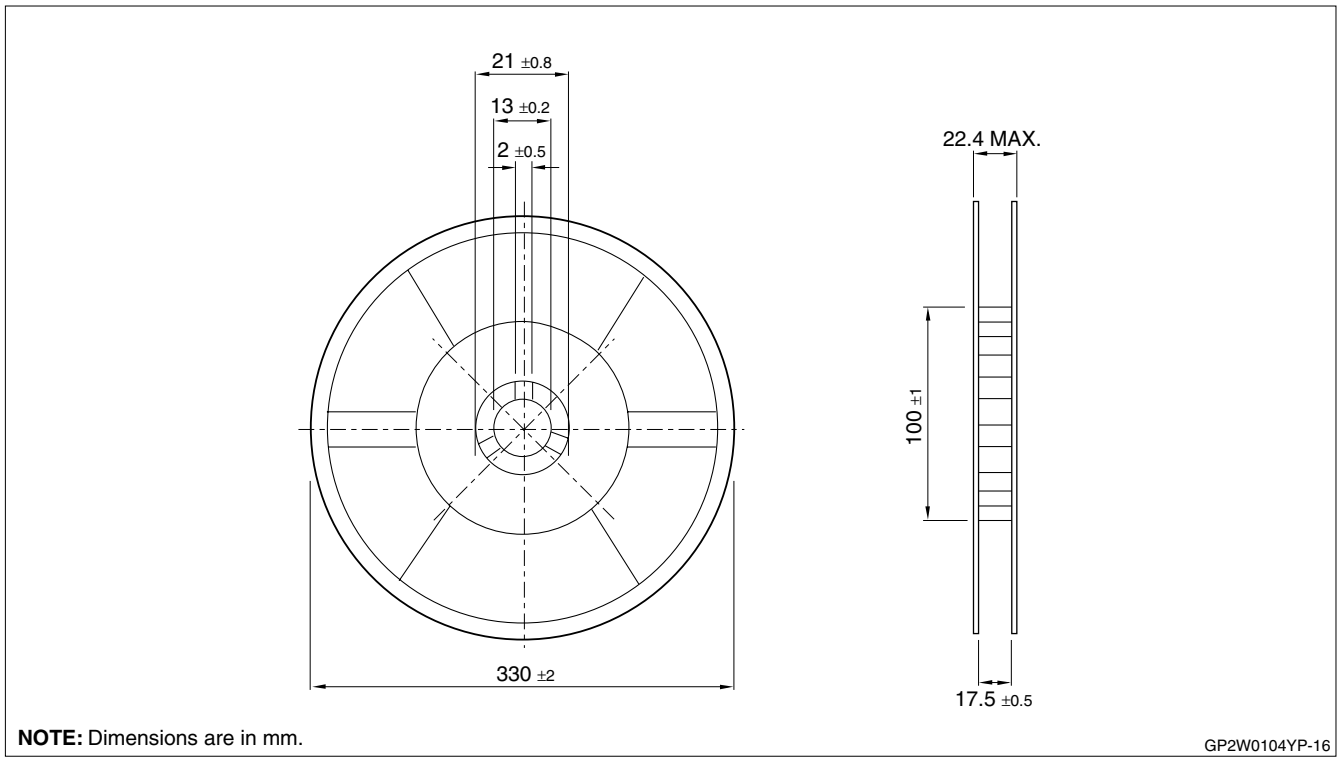

Figure 16. Reel Structure and Dimensions
- Reel structure and dimensions: The taping reel should be conductive plastic with its dimensions as shown in Figure 16.